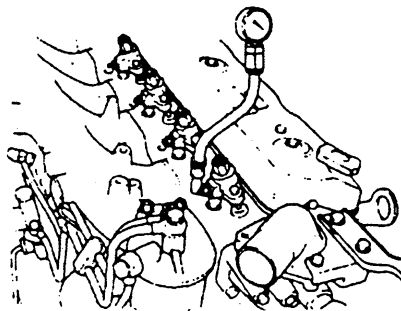

Fig.1.19
1.6.10 Measurement of compression pressure (Fig 1.19)